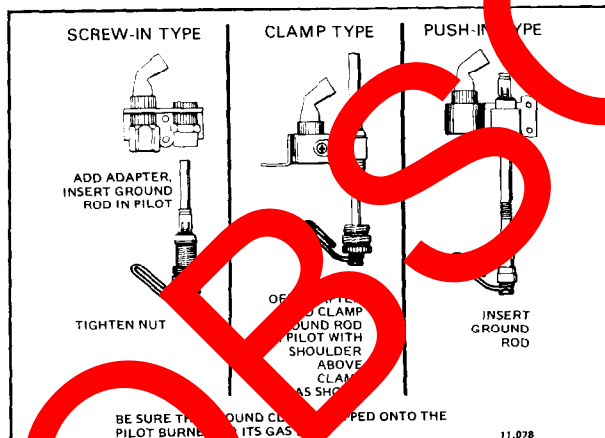

FIG. 8—MOUNT GROUND ROD ON PILOT BURNER.
1. Install the ground rod if needed. Refer to Fig. 8.
- Insert ground rod in place of thermocouple on pilot burner. Push ground rod all the way up. Fasten as shown in Fig. 8.